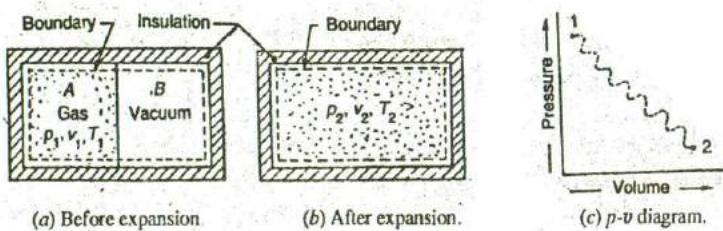

Fig. 3.23. Free expansion.
Consider two chambers *A* and *B* separated by a partition as shown in Fig. 3.23 (a). Let the chamber *A* contains a perfect gas having volume  $v_1$ , pressure  $p_1$ , and temperature  $T_1$  and the chamber *B* is completely evacuated. These chambers are perfectly insulated so that no heat transfer takes place from or to its surroundings. Now, if the partition is removed, the gas will expand freely and occupy the whole space as shown in Fig. 3.23 (b). By this, the volume of the gas increases to  $v_2$ , pressure decreases to  $p_2$  and the temperature may also decrease to  $T_2$ .
2. Since the free expansion of the gas from the equilibrium state 1 to the equilibrium state 2 takes place suddenly, therefore the intermediate states will not be in equilibrium states, as shown on the  $p$ - $v$  diagram in Fig. 3.23 (c). Thus the process is irreversible and the expansion is, therefore, known as irreversible adiabatic expansion.